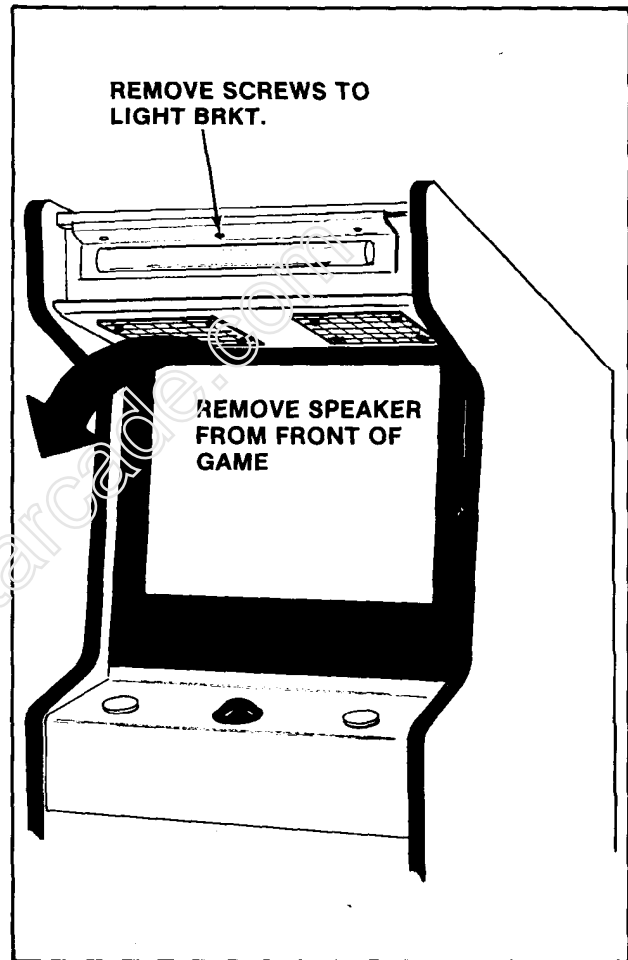

Figure 2-37 Speaker Replacement
**2.11.1 UPRIGHT MODEL:** (See Figure 2-37)